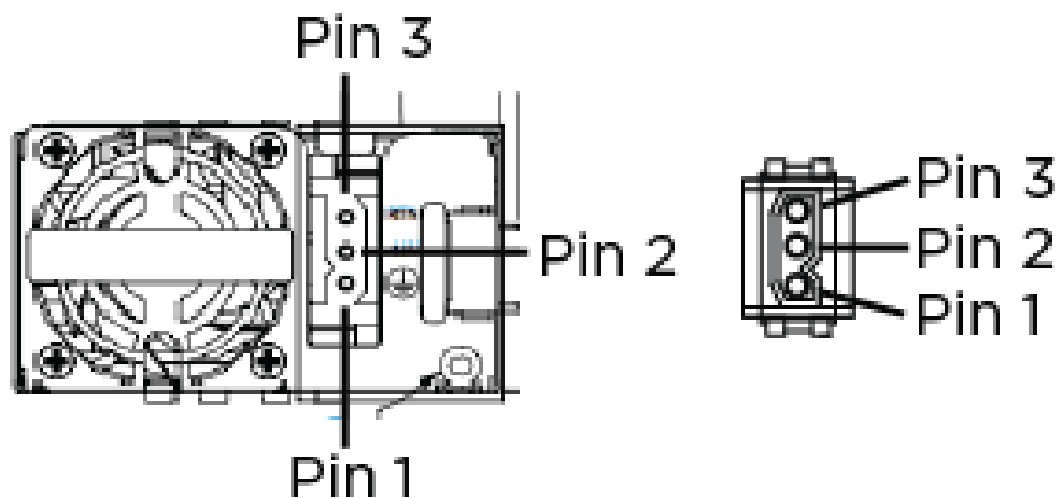

Figure 80: Connecting the DC Power Cord
3. Position the DC power cable connector so that the wide, flat side is closest to the fan, as shown in Figure 80. The DC power cable connector can only connect to the power supply one way.